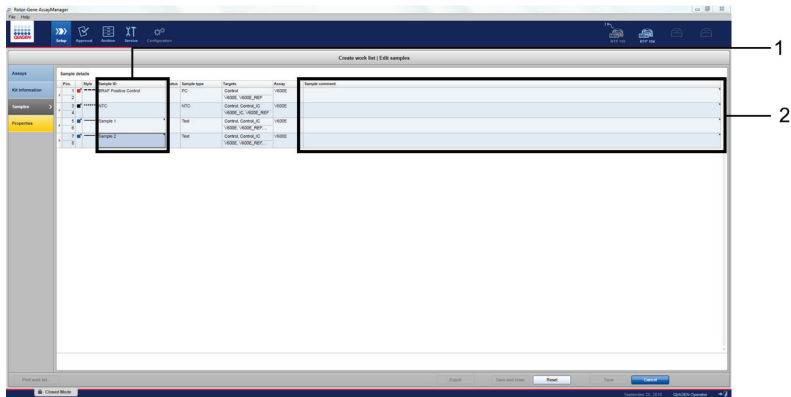

Figure 19. “Create work list” main window on the “Samples” tab. 1 = Enter sample ID. 2 = Enter sample comments.
- Click the “Samples” tab to enter sample information (Figure 19). Enter the sample names into the “Sample ID” column. Enter any comments into the “Comments” column. (Figure 19).